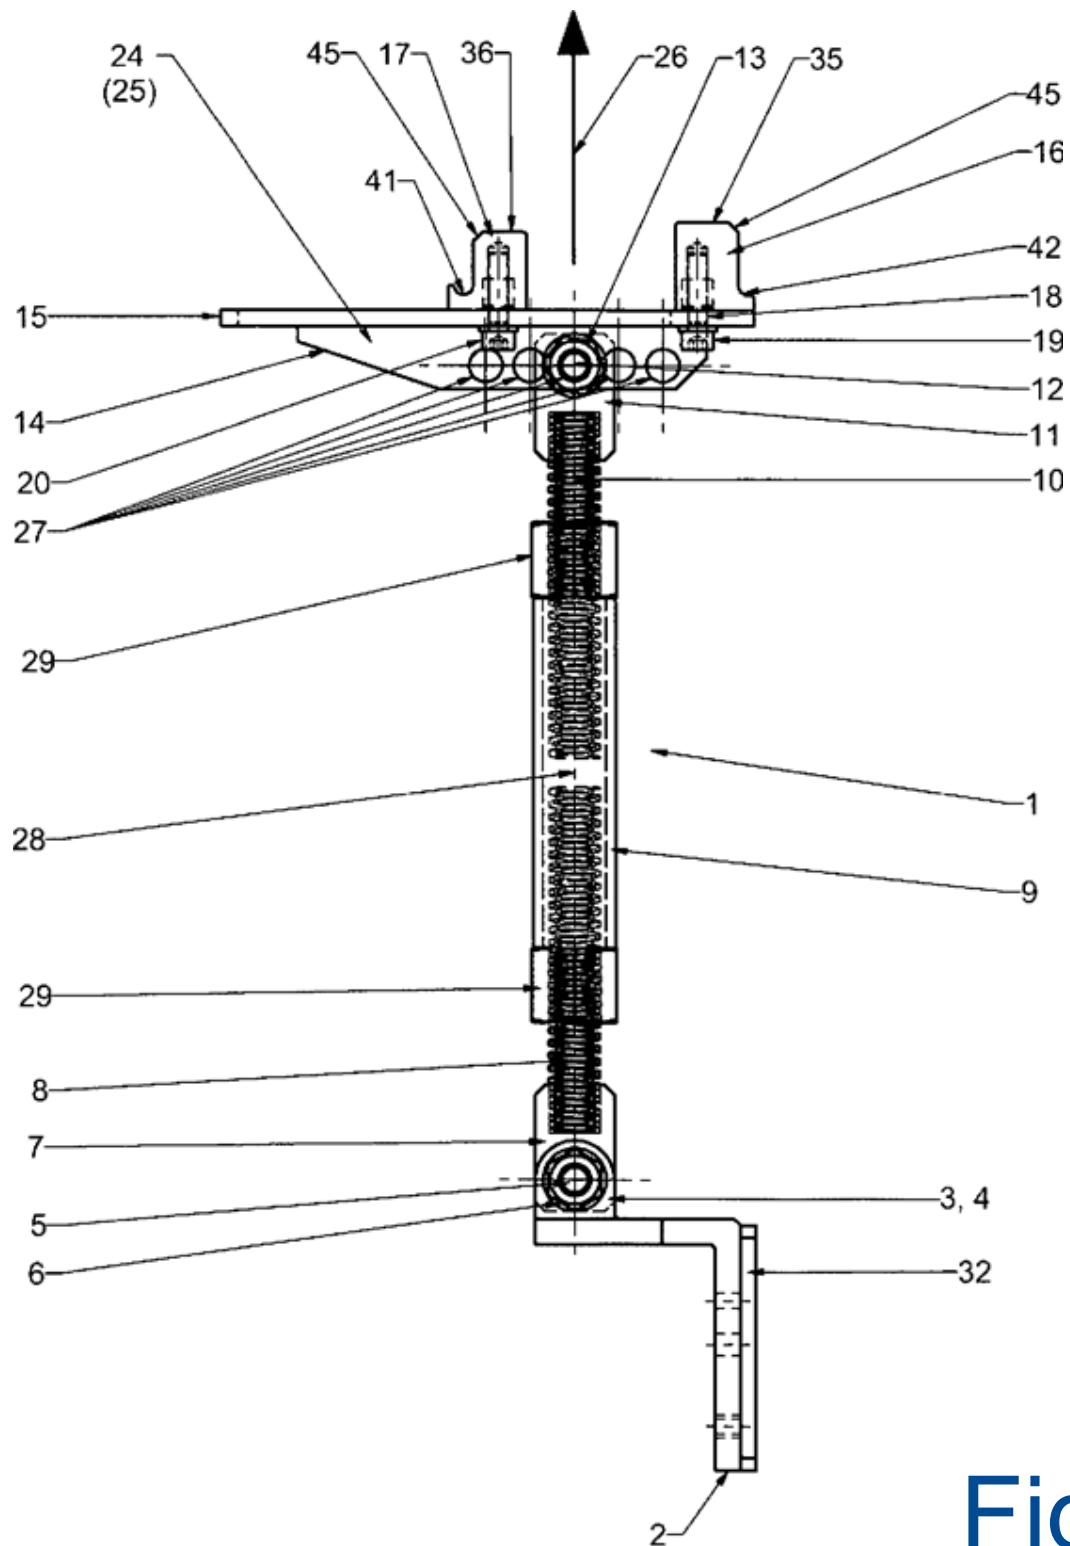
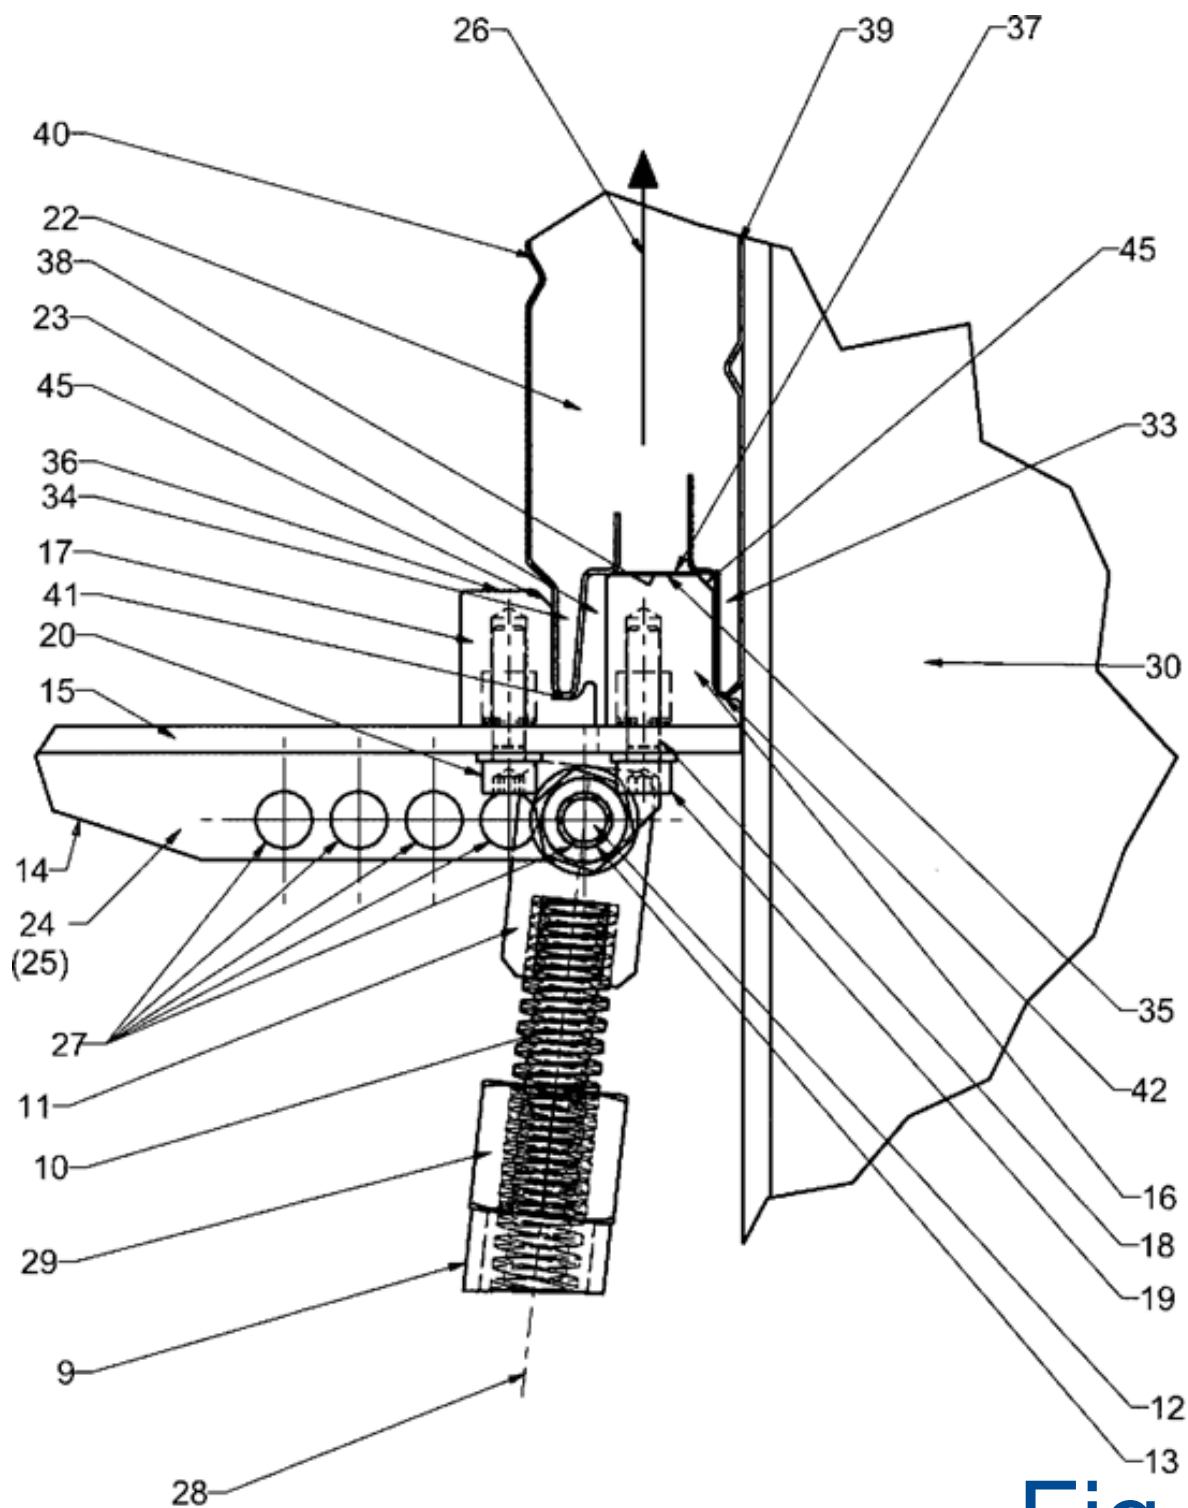
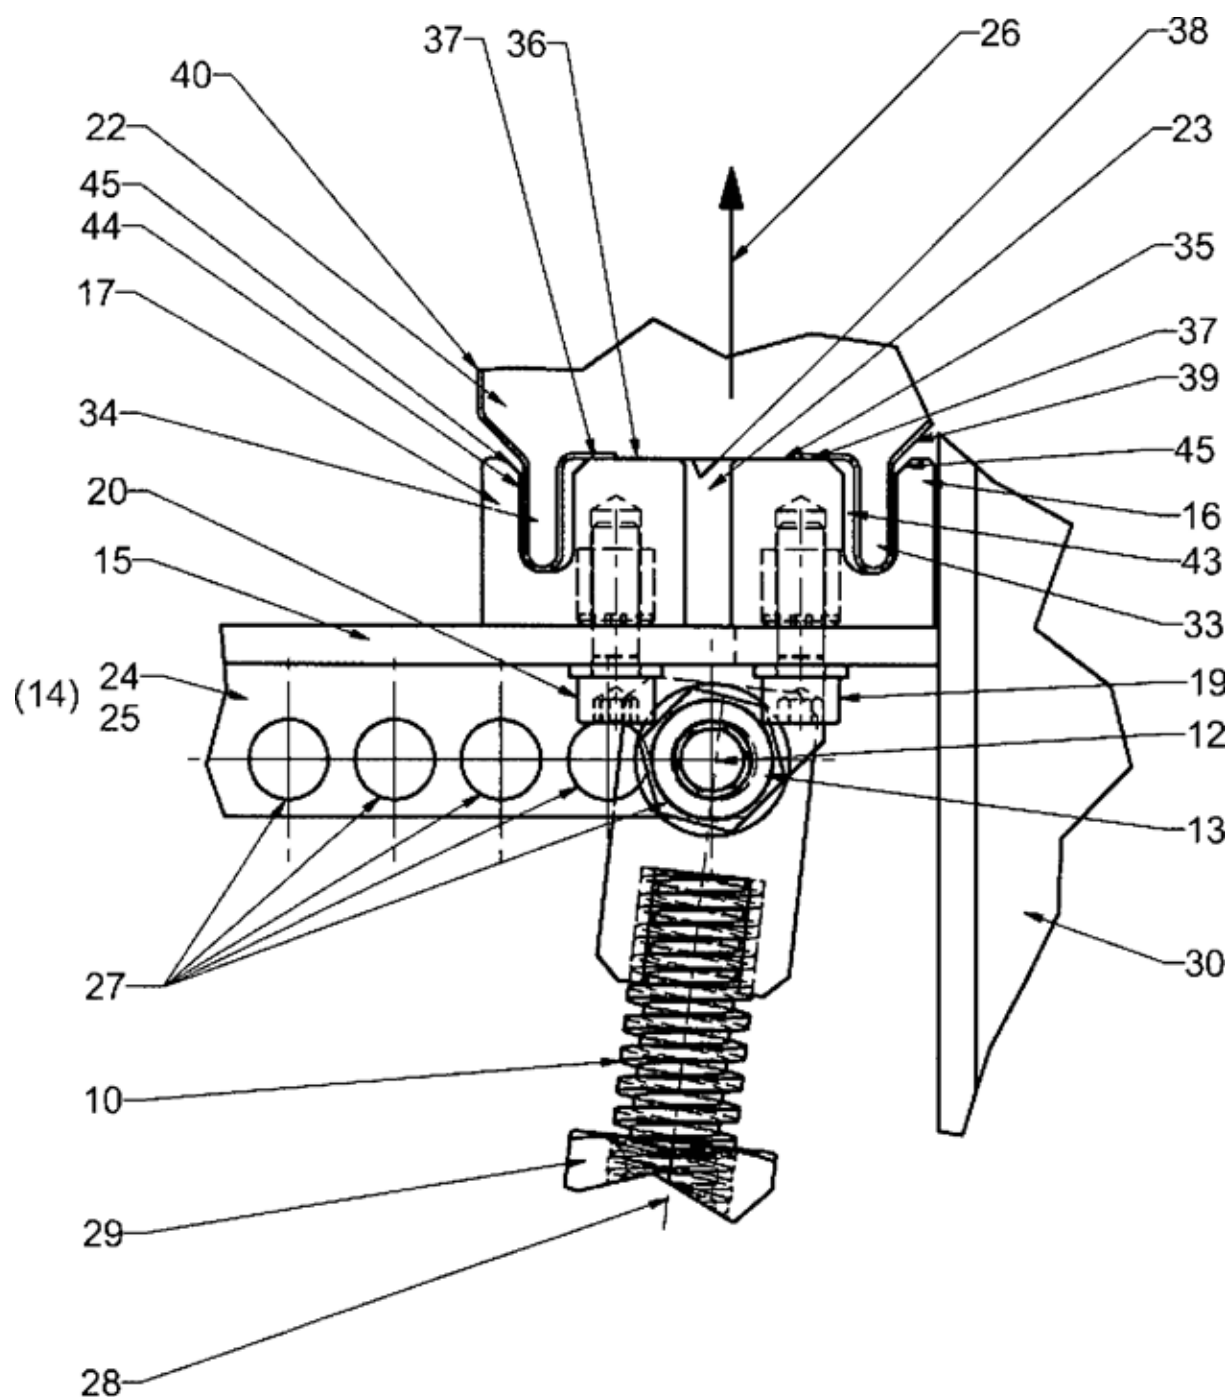

Fig. 1
Fig. 2
Fig. 3
- The first wall panel must be completely calibrated, aligned (rectangular) and attached to the support construction (SC).
- Depending on the type of sandwich panel, two different clamps will be applied for the installation of the wall panels (see “arrangement of clamps” Fig. 1; Fig. 2; and Fig. 3). One will be attached stationarily and the other non-stationarily in vertical position to pressure plate (15). Depending on the thickness of the panels, the position of stationary clamp (17) and the pressure plate with supporting element (11) can be adjusted to the wall panel which is to be installed.
Attach pressing clamp (16) and (17) (matching the respective sandwich panel) to pressing plate (15), note the type of wall (i.e. Thermowall Fig. 3).
Pressing plate (15) with solidly attached pressing clamp (16) (short side of the pressure plate) always points to the internal sheet of the panel and the support construction (SC) (Fig. 1 and Picture 1).
Adjust pressing clamp with reference to the joint and the thickness of the panel (S) (Fig. 2 and Fig. 3).